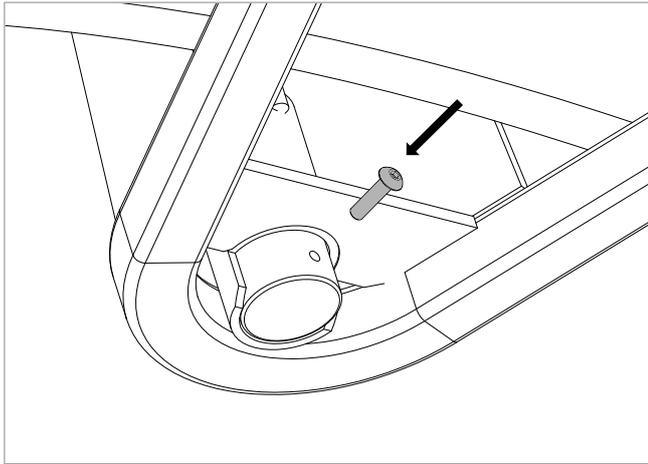

Figure 7.8
- Fit the M5 x 20mm screw to the threaded hole of the lifting pole as shown in Figure 7.8 and tighten with a 4mm Allen key.